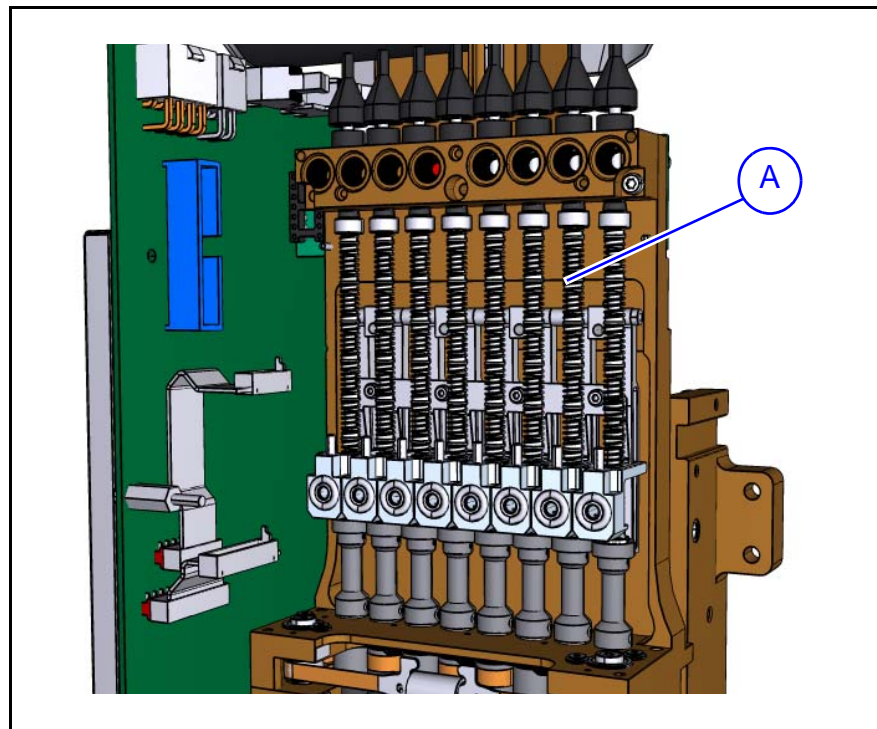

Figure 16-33. Lubricate vacuum pipe unit.
- Use a Q-tip to clean and lubricate (K-012-0085 HYDRAULIC OIL) the vacuum pipe unit behind the springs ('A' in Figure 16-33).